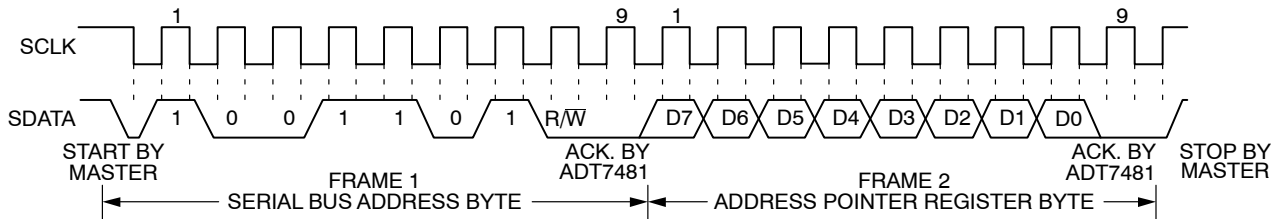
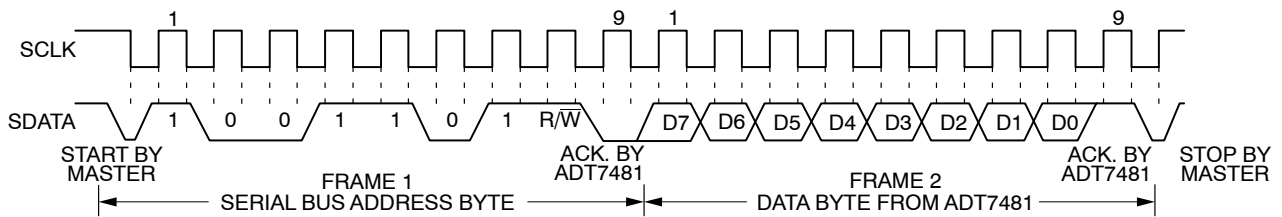

Figure 16. Writing to the Address Pointer Register Only
Figure 17. Reading Data from a Previously Selected Register
1. If the address pointer register value of the ADT7481 is unknown or not the desired value, it is necessary to set it to the correct value before data can be read from the desired data register. This is done by performing a write to the ADT7481 as before, but only the data byte containing the register read address is sent, as data is not to be written to the register. This is shown in Figure 16. A read operation is then performed consisting of the serial bus address, $\overline{R/W}$ bit set to 1, followed by the data byte read from the data register (shown in Figure 17).
2. If the address pointer register is already at the desired address, data can be read from the corresponding data register without first writing to the address pointer register, and the bus transaction shown in Figure 16 can be omitted.